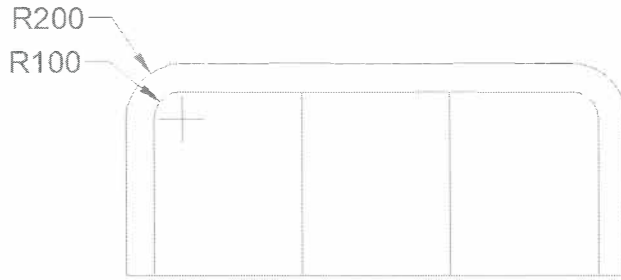

Figure 5–12
In this task, you will use the Block Editor to redefine a block with a new design, as shown in Figure 5–12.
4. Fillet the back corners of the couch, as shown in Figure 5–12.